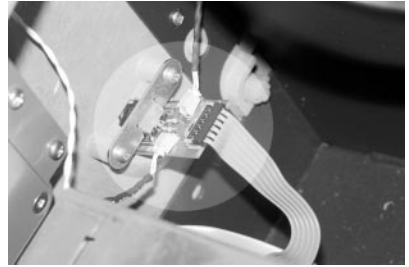

Figure 3-31. The audio board.
2. Push the AC power ON/OFF switch to the OFF(0) position.
4. Refer to Figure 3-31. Disconnect the three cables from the audio board.
5. Refer to Figure 3-31 Remove the screw that attach the audio board to the control panel.